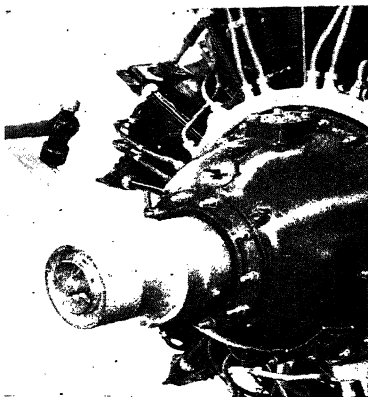

Fig. 3.—Loosening thrust nut by striking wrench with a hammer. It should only be loosened one turn until ready to remove.
3. Loosen the thrust nut *one* turn (Fig. 3).